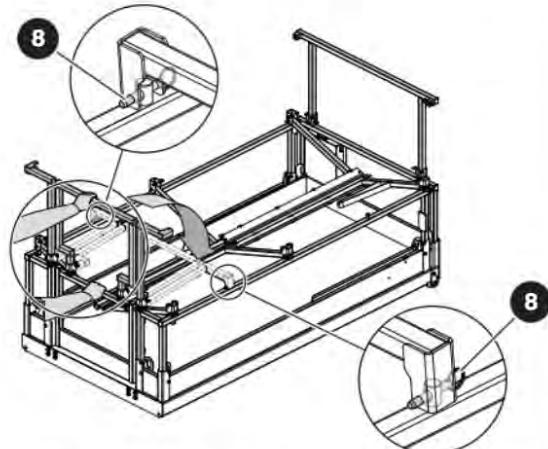

Figure 3-22. Fold down the rear gate.
16. Hold the mid-rail with one hand and use the other hand to fold down the rear gate. Refer to Figure 3-22 for hand positions. Lock into place by installing pins **8**. Ensure the detent ball of the pin is all the way through.
17. Remove locking pins from extension guardrail **9**. Hold the mid-rail with one hand and fold down the guardrail with the other hand (refer to Figure 3-22 for hand positions). Insert pin **10** to lock the guardrail into place on the mounting post. Ensure that the detent ball of the pin is all the way through.